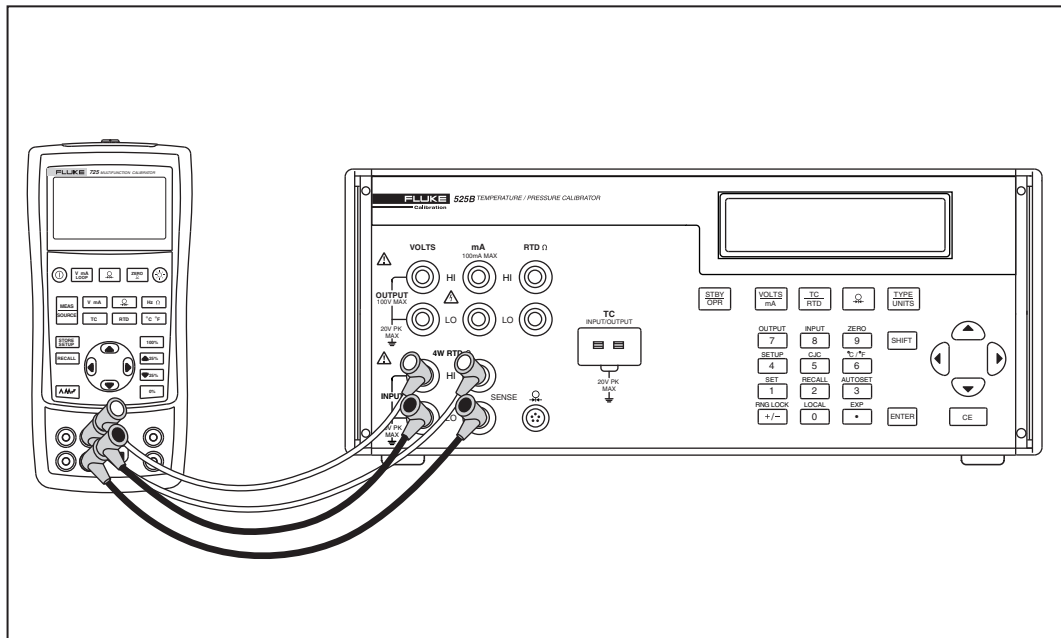

Figure 3-3. Measuring RTD Output from an Instrument
1. Connect the Calibrator to the instrument you want to measure as shown in Figure 3-3.